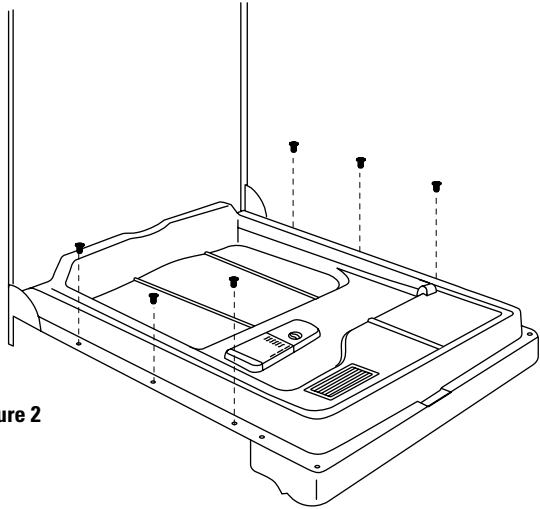

Figure 2
- Remove the 6 Phillips head screws along the sides of the door (Figure 2) holding the inner door to the outer panel. Retain screws.